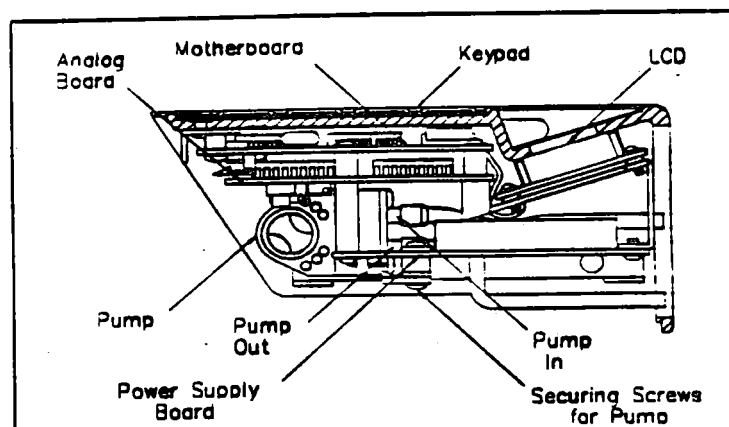

Figure 5
3. Carefully lift the handle away from the control housing. The two parts remain connected by the set of wires from the I/O connector. Locate the red sample pump mounted on the power supply board. See Figure 5.